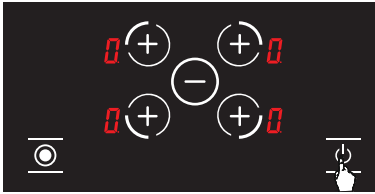

Figure 11
1. Switch on the hob by pressing the button. **⏻** (See Fig. 11.)